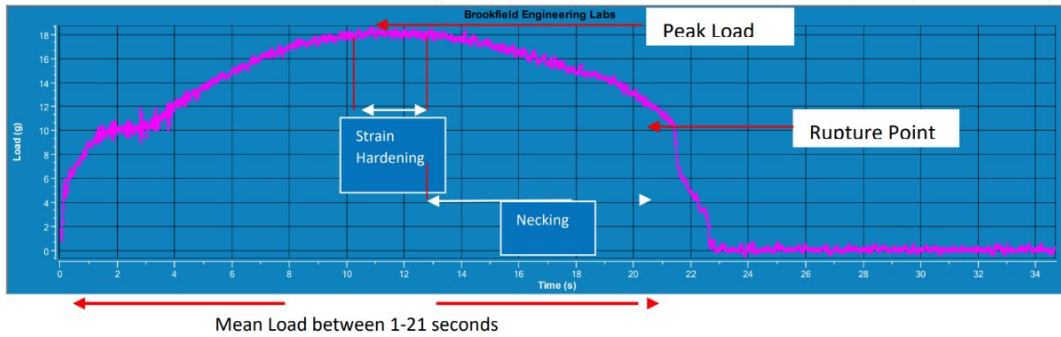

Figure 1 - The Load/Time graph for the hardness and extensibility of a gummy sweet using a 6 mm cylinder probe.
- Figure 1: The Load vs. Time graph shows the tensile strength (elastic limit) of the gummy sweet. Below the peak force, the sweet can recover fully (elastic deformation). After reaching the peak, plastic deformation begins, followed by necking and rupture.